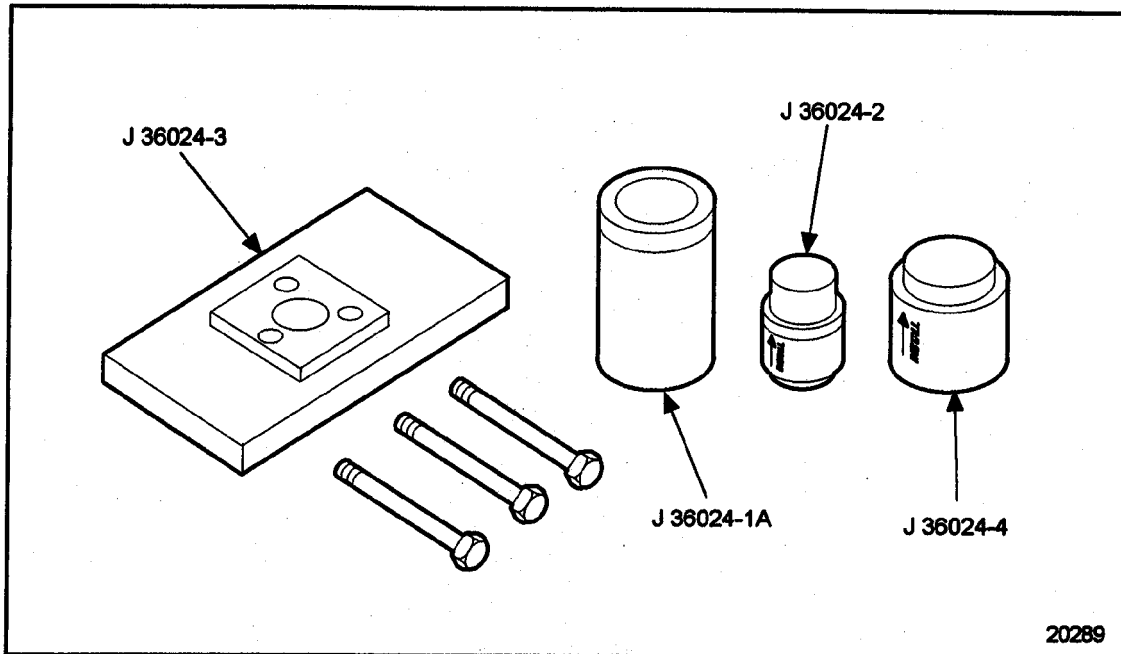

Figure 1-403 Accessory Drive Service Tool Set
For disassembly and assembly of the accessory drive use J 36024-C . See Figure 1-403.
17. Attach J 36024-3 part of J 36024-C, to the drive gear. See Figure 1-403.